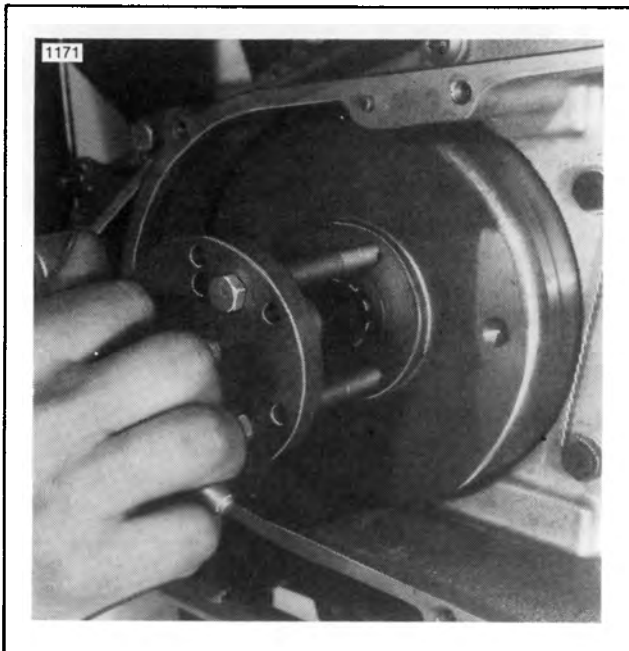
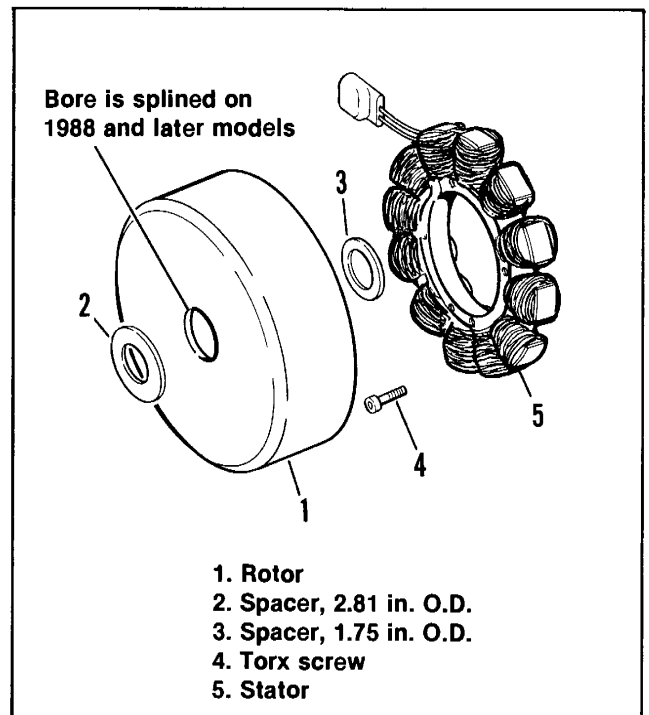

Figure 8-12. Pulling the Rotor
Figure 8-13. Rotor and Stator Mounting
3. See Figure 8-12. Pull the alternator rotor using the ROTOR PULLER, Part No. HD-95960-52B, if puller holes are provided. Fabricate wire hooks to pull rotor at spline area if puller holes are not provided. See Figure 8-13, 1986 and 1987 rotors have spacers in place of the splined rotor hub. Splines and spacers are used on 1988-1990 models.
4. See Figure 8-15. Remove the four screws (1) and two lock plates, if equipped (2). Remove two connector screws (3). Unplug the regulator and remove the stator (4). See Figure 8-13. Later stators have Torx fasteners without lock plates. **DO NOT REUSE THE TORX FASTENERS.** 1986 and later vehicles have coil windings that are not encapsulated.
2. Install the rotor onto the sprocket shaft. See Figure 8-13. On 1986 and later vehicles place the small diameter spacer (3) at the inside (stator side) of rotor (1) and the larger diameter spacer (2) at the outside of the rotor. Install the variable thickness washer and the sprocket extension. Install the engine sprocket, chain or belt and clutch. See CLUTCH ASSEMBLY in section 6.